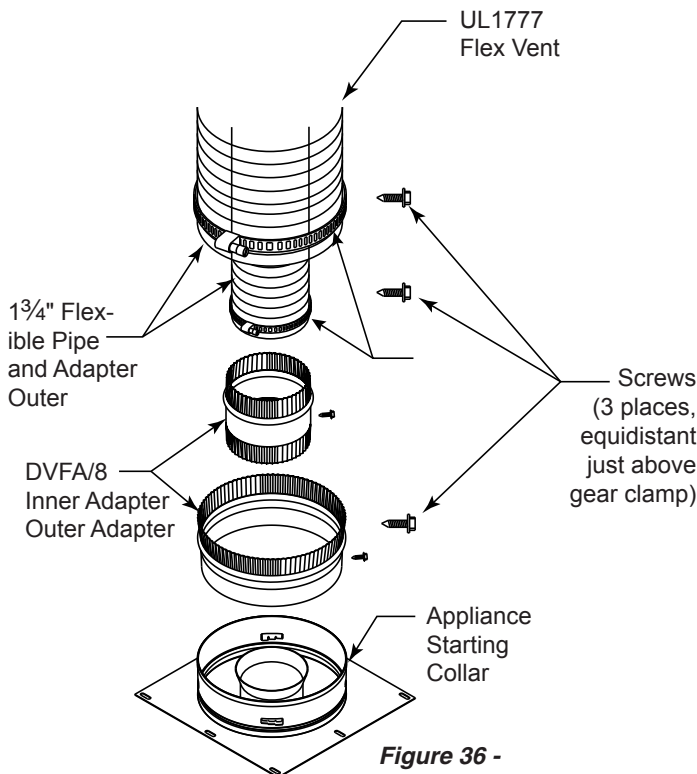

Figure 36 - Typical Appliance Connection
2. The flex adapter starter kit (DVFA/8) is used to attach flex venting to the appliance starting collar. It includes 5" inner and 8" outer adapter rings. *Figure 36*
B. Installing the outer flex pipe. *Figure 36*